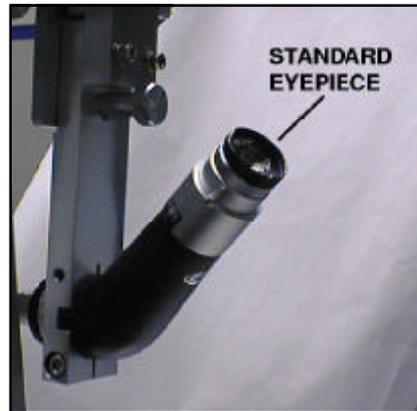

Figure 2-36. Microscope standard eyepiece.
- 2) Remove the microscope standard eyepiece, Figure 2-36.